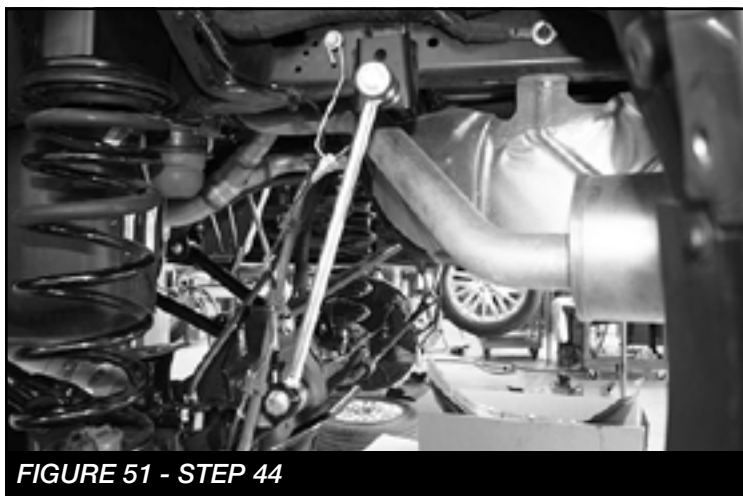

FIGURE 51 - STEP 44
44. Install the FT1004 (Bushings) & FT404739 (sleeves) in the FT1599-2-4 (sway bar endlinks). Then install the endlinks to the frame and sway bar using the supplied M12 X 70mm hardware. Torque to 93 ft-lbs **SEE FIGURE 51**